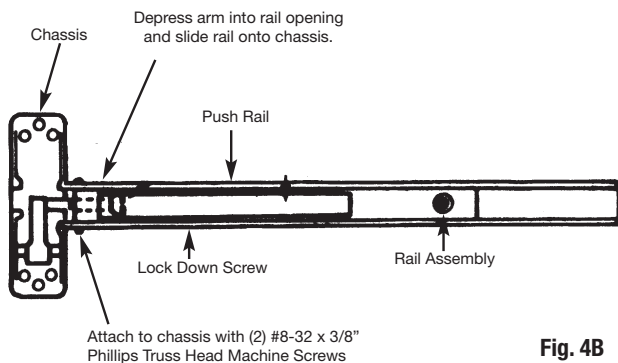

Fig. 4B
2. Temporarily attach chassis to rail, then lock push rail down using hex or cylinder key or by holding push rail in the depressed position on 8900 exit device (Fig. 4B).